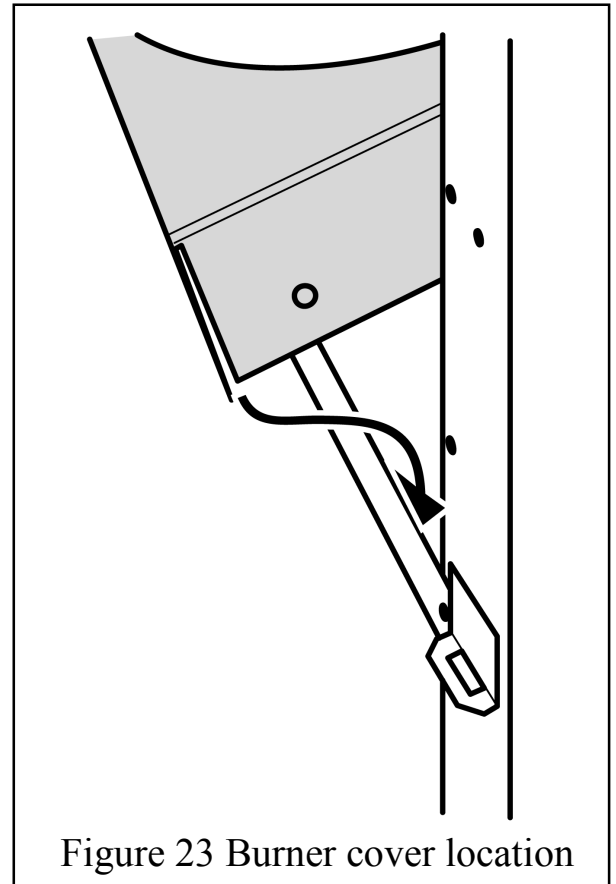

Figure 23 Burner cover location
2. Refit the burner cover by lowering it onto the burner module. The front edge of the burner cover should locate in front of the burner module. The sides of the burner cover should locate behind the front of the burner module. Secure with two screws removed previously (See figure 23)